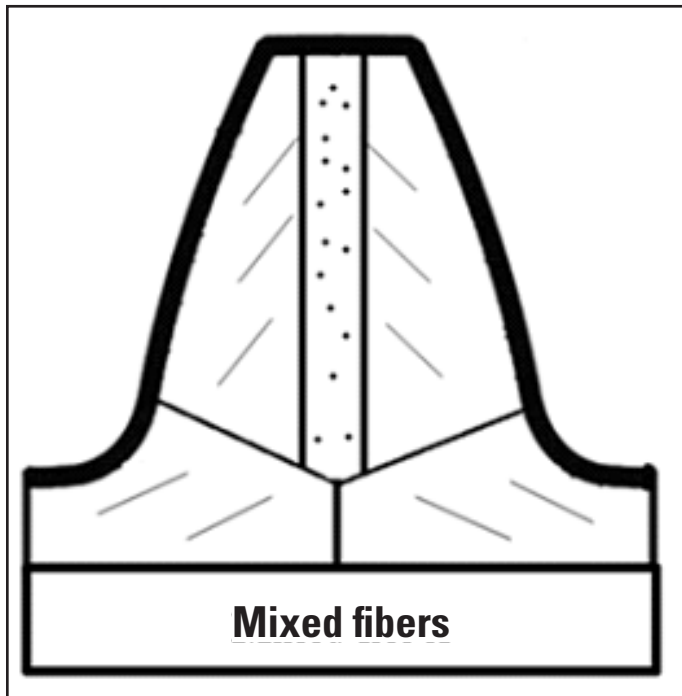
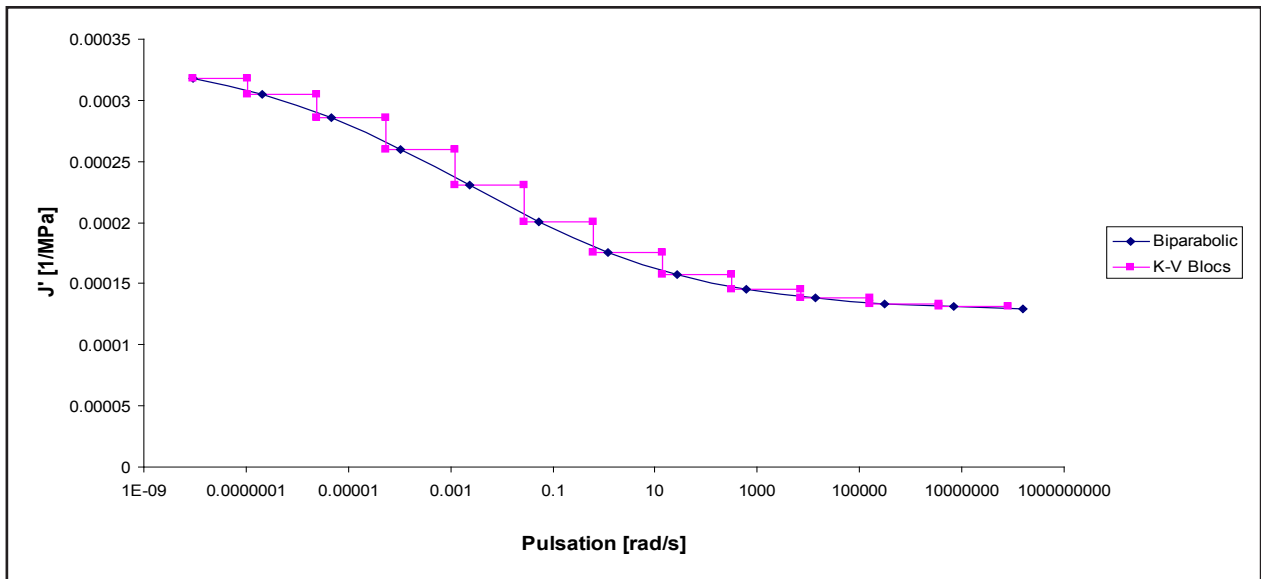

Figure 6 Fiber distribution outline.
Figure 8 Discretization of the master curve.
In Figures 6 and 7 the profile and lead deviations are presented. These are separated to only axial deviations of inserts in the left column and only radial deviations of inserts in the right column. The
**Figure 6** Result from simulation where the profile deviations are plotted with varying hob classes. On the left ordinate, the gear tooth deviation, and on the right ordinate, the gear quality, is plotted.
Using the results in Figures 6 and 7, the gear quality according to Equation 1 is given in Table 4.
To verify the results from the simulation model, they are compared with a gear manufactured using an industrial hobbing machine, i.e., a Liebherr LC 380. The hob used in this verification was control-measured, and the positional error of the inserts in the axial and in the radial direction was used as input to the simulation model. The gear manufactured — in both experiments and in simulation — was control-measured for alignment and form deviations, according to previous section. The results from these measurements are presented graphically (Fig. 8) and in measured quantity (Table 6).
The results show very good agreement with experimental results (Fig 8.; Table 6). Conclusions that can be drawn are that radial deviations impair the gear tooth more than the axial deviation of the inserts. The effect is only slight and most noticeable for the low feed rate, more specific  $f_{g\omega}$ ,  $f_{H\beta}$  and  $f_{j\beta}$  in Figures 6 and 7.
A comparison between quantitative, simulated fiber orientation prediction and the qualitative, tomography observations reveals similar trends — i.e., three main fiber organization areas are defined: one on the tooth flank, one in the core zone of the teeth, and the last in the root area (Fig. 6).
generalized model are necessary to take into account a large relaxation time spectrum of the polyamide 6. The distribution of retardation time  $\tau_i(T_{ref})$  is deduced from pulsation  $\omega_i$  at the maximum of  $J''_i(i\omega, T_{ref})$ ; i.e. — in the middle of the frequency segment. The retardation times are deduced with the relationship shown in Equation 5. Figure 8 shows a Master Curve built at the glass transition temperature of 60°C, with fiber parallel to the sollicitation direction.
The geometrical bulk influence coefficient method is obtained in the case of an elastic material. They are computed on gear geometry where the fiber orientation is taken into account in each section (Fig. 6); they are defined by the relationship found in Equation 12: